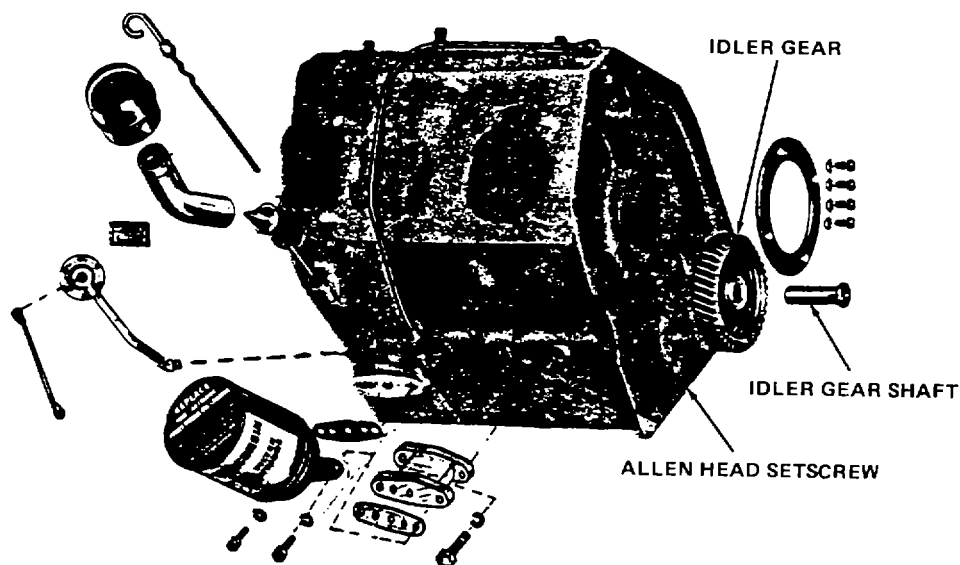
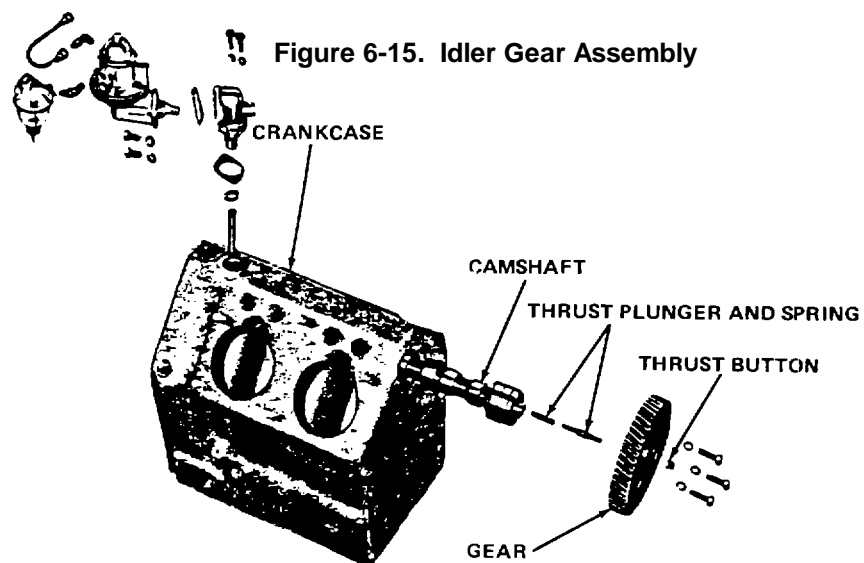
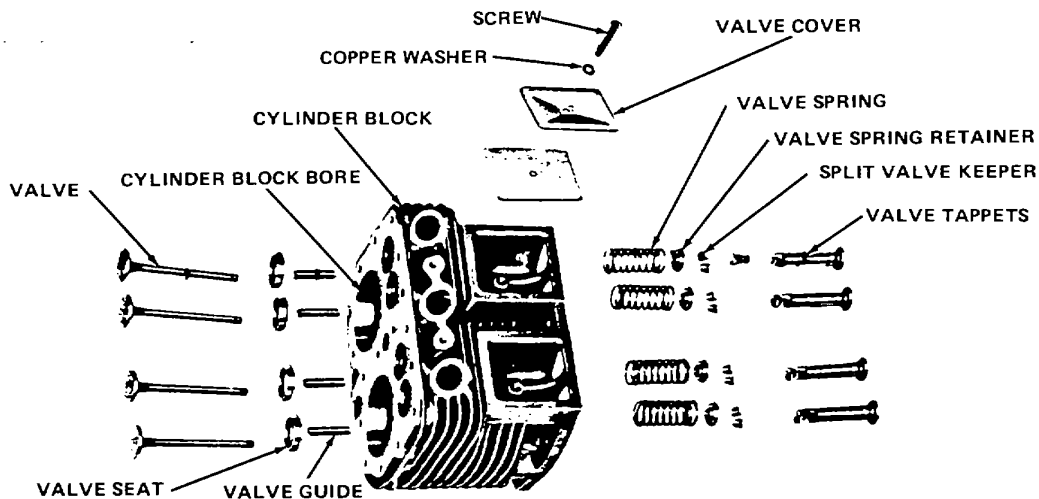
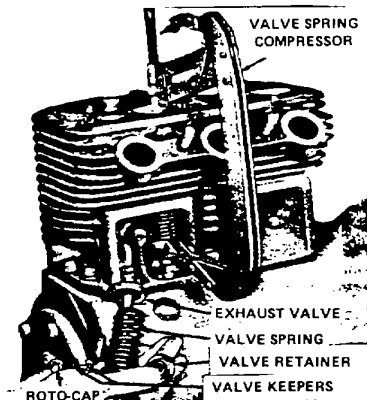

Figure 6-15. Idler Gear Assembly
Figure 6-16. Camshaft
Figure 6-19. Cylinder Block
Figure 6-20. Valve Spring Assembly
j. Idler Gear. (Figure 6-15)
- (1) Remove alien head setscrew.
- (2) Install suitable gear puller and remove idler gear shaft and idler gear.
k. Camshaft Gear. (Figure 6-16)
- (1) Remove three 5/16-18" x 1" screws and lock washers.
- (2) Remove thrust button.
- (3) Pry camshaft gear off of end of camshaft.
- (4) Remove thrust plunger and spring.
o. Cylinder Block. (Figure 6-19)
- (1) Remove one 5/16-18" x 1-1/2" screw and 5/16" copper washer from each valve cover.
- (2) Remove two valve covers from each cylinder block.
- (3) Apply valve spring compressor (Figure 6-20) to intake valve for # 1 cylinder.
- (4) Compress valve spring and remove split valve keepers.
- (5) Release and remove valve spring compressor.
- (6) Remove valve spring retainer.
- (7) Remove valve.
- (8) Remove valve spring.
- (9) Repeat steps 3, 4, 5, 6, 7 and 8 for each remaining valve.
- (10) Remove six 7/16-20" hex nuts and six 7/16" external tooth lock washers from each cylinder block.
- (11) Remove cylinder block.
- (1) Push eight valve tappets (Figure 6-19) up against underside of crankcase (Figure 6-16). Secure in place with elastic bands.
- (2) Remove camshaft (Figure 6-16).
r. Valve Tappets. (Figure 6-19)
- (1) Remove elastic bands installed in paragraph q.
- (2) Remove eight valve tappets.
- (7) Install six 3/18-16" x 1-1/2" screws and lock washers into the bolt holes in the main bearing plate. Secure the bolts to a torque of 20 lb-ft.
- (8) Check end play of crankshaft. End play must be no less than .002 inches nor more than .004 inches. Adjust shim pack as required to obtain proper end play.
b. Camshaft and Tappets. (Figure 6-16 and 6-19)
- (1) Replace any tappets which show any sign of wear or scoring.
- (2) Replace camshaft if journals or any cam lobe show any sign of wear or scoring.